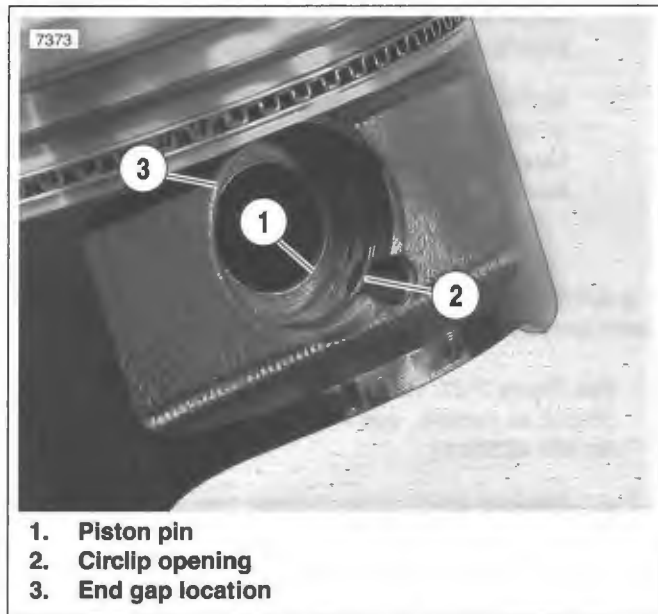

Figure 3-29. Preinstalled Circlip
5. See Figure 3-29. Insert piston pin (1) through pin bore and upper connecting rod bushing. Push pin until it contacts circlip installed in opposite pin boss. Verify that end gap (3) for circlip is 180 degrees from opening (2).